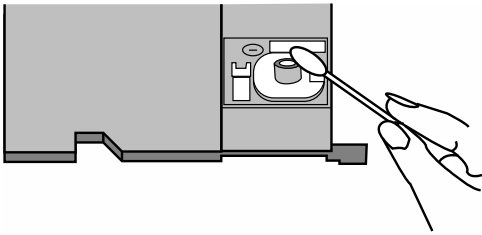

FIGURE 3-16 Illustration of how to use a cotton swab to lightly wipe the lens opposite the pickup carriage. (Zenith Corp.)
- 2 Use a new cotton swab to lightly wipe the lens located opposite the pickup carriage section. Wipe two or three times in a spiral moving from the center to the outer periphery (Fig. 3-16).